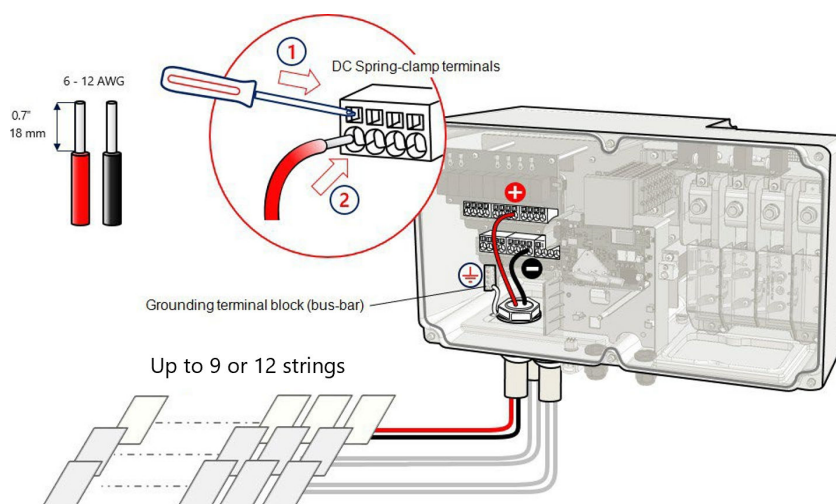

Figure 23: Connecting PV strings to a Synergy Manager with spring-clamp DC terminals
- c. Insert the wire into the top opening (see Figure 23).